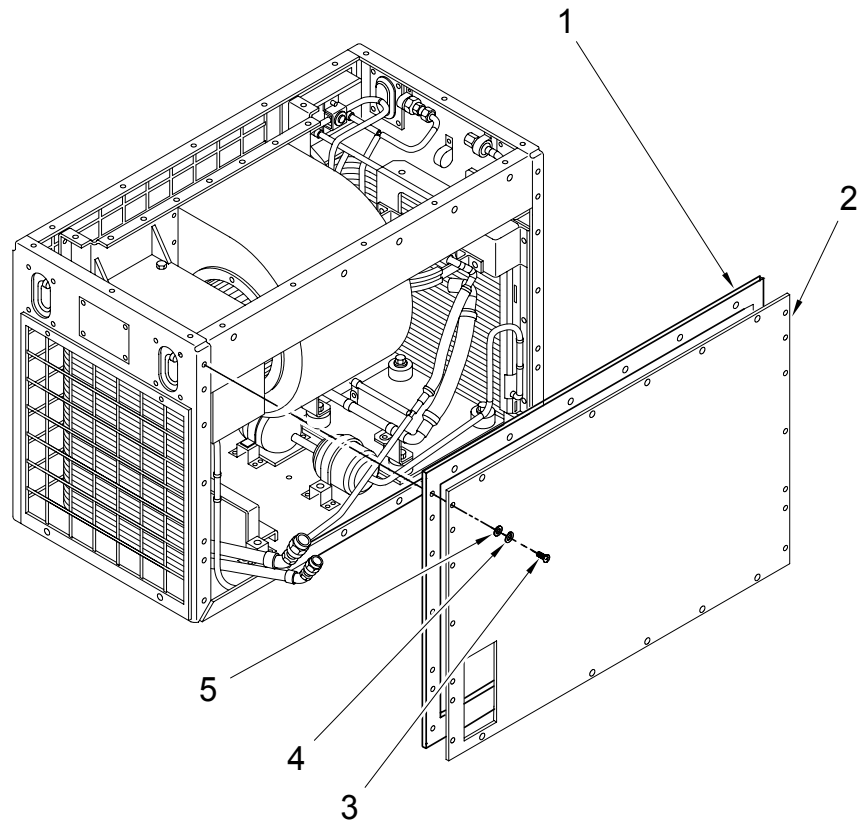

Figure 2. CONDENSER REAR COVER.
See Figure 2.
4. Carefully remove the back condenser cover. See Figure 2.
9. Cut gasket (1) to size. Be sure that EMI gasket corners are mitered so that good continuous edge contact is made. Figure 2